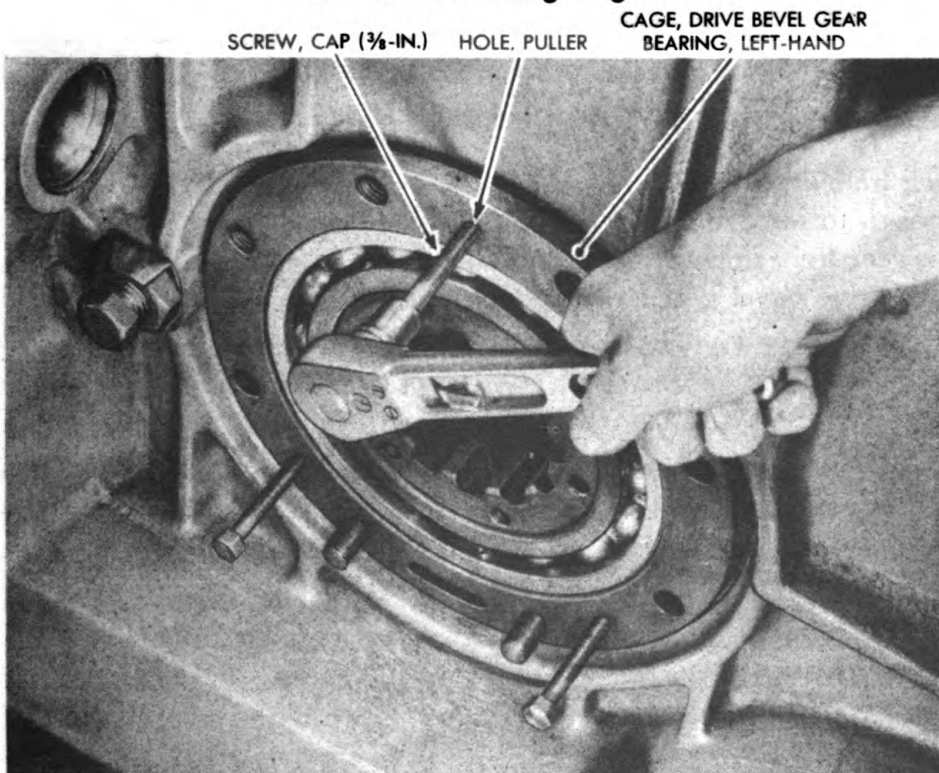

Figure 45 — Left-Hand Drive Bevel Gear Bearing Cage Removal
(22) REMOVE LEFT DRIVE BEVEL GEAR BEARING CAGE (fig. 45).
(23) REMOVE RIGHT DRIVE BEVEL GEAR BEARING CAGE (fig. 45).